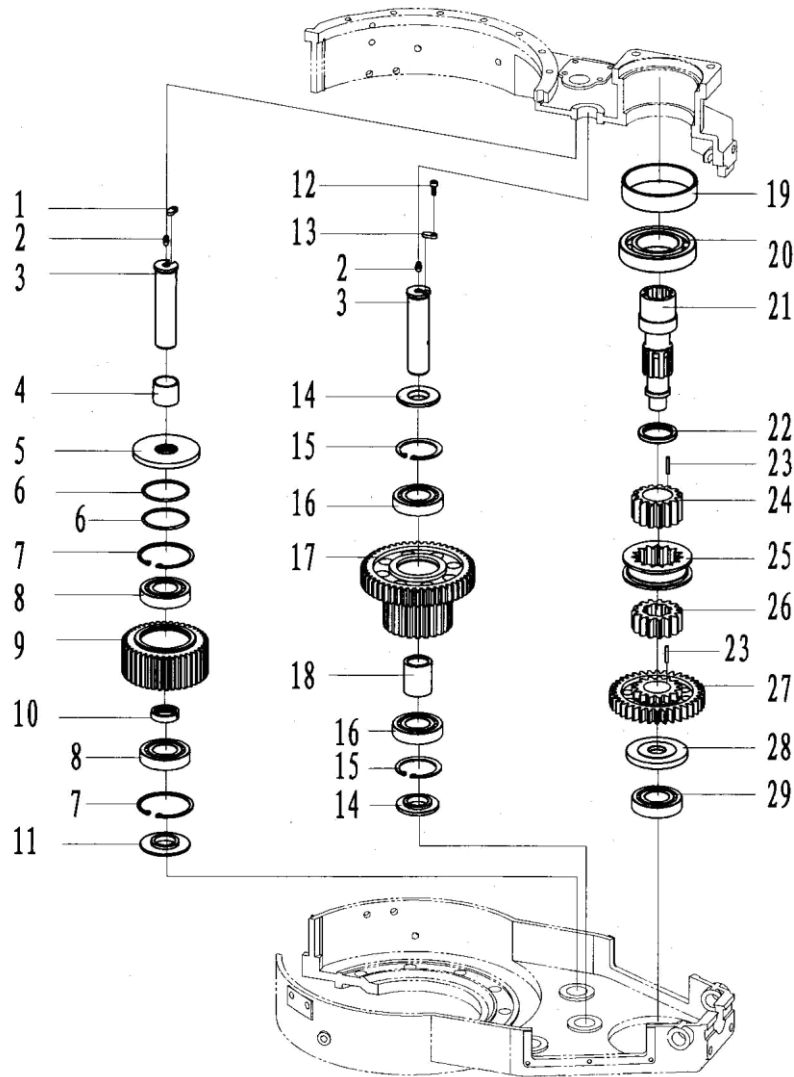

Fig.23
11.6 Transmission mechanism and parts list (Fig.23, Table 10)